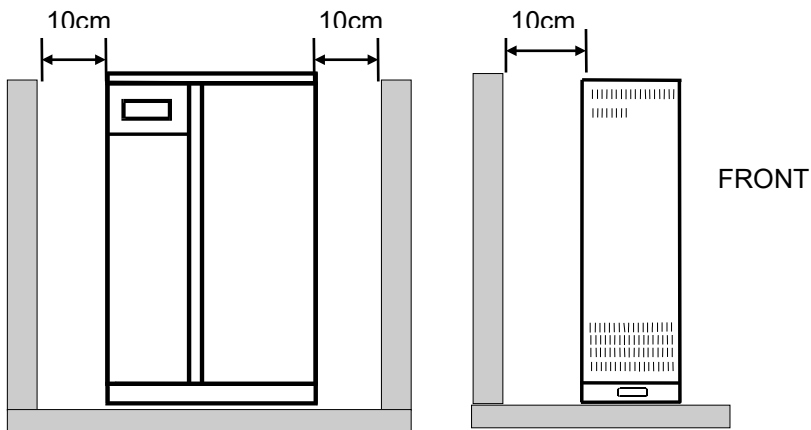

Figure 5
2. Allow a minimum distance of 10 cm in the rear and two sides of the UPS for ventilation. (Fig.5)